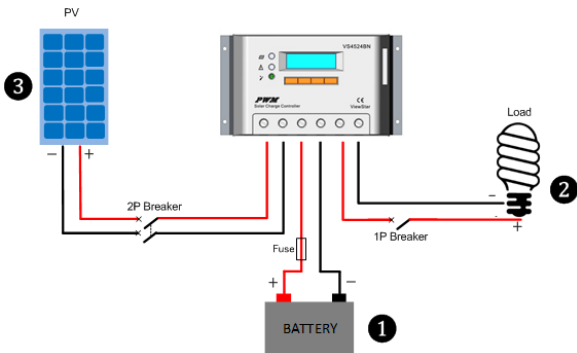

Figure 2-2 Schematic of wiring
Step 2: Connect the system in the order of ① battery → ② load → ③ PV array in accordance with Figure 2-2, "Schematic Wiring Diagram" and disconnect the system in the reverse order ③ ② ①.